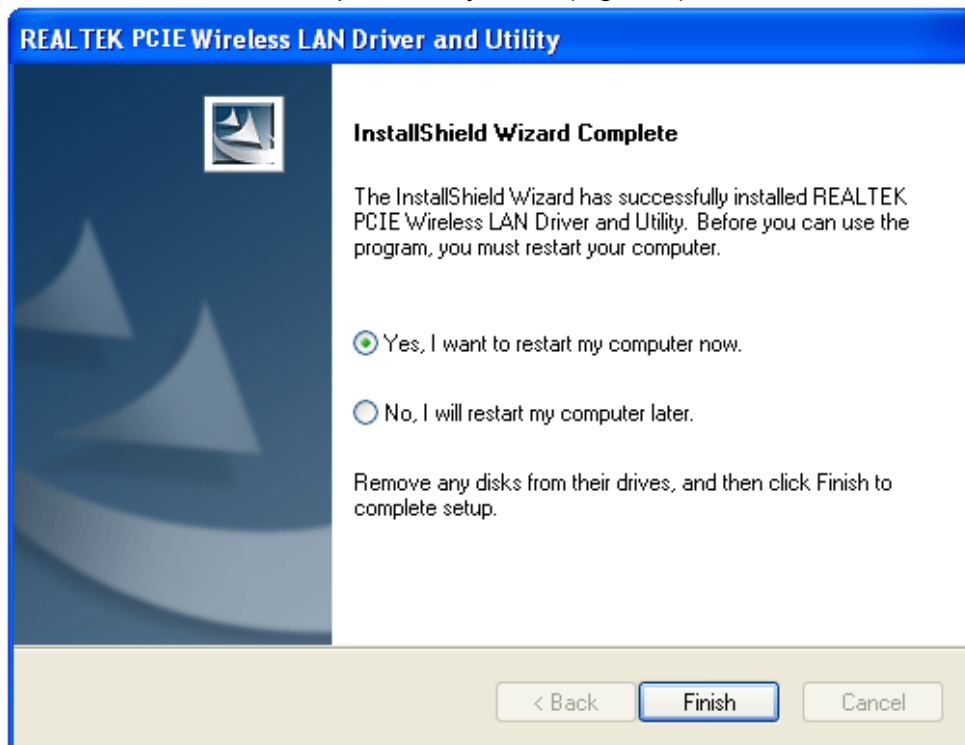

Figure 7
5. Click on **“Finish”**. The setup is already done. (Figure 7)